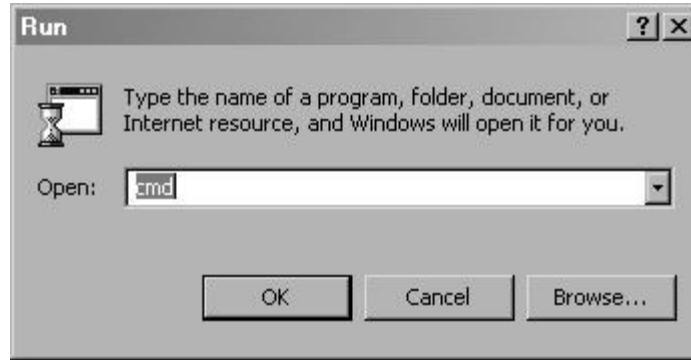

Figure 6-4: Run Window
2. Open a DOS window. This can be accomplished by using the run command under the start button, type "cmd". See Figure 6-4 for more information.